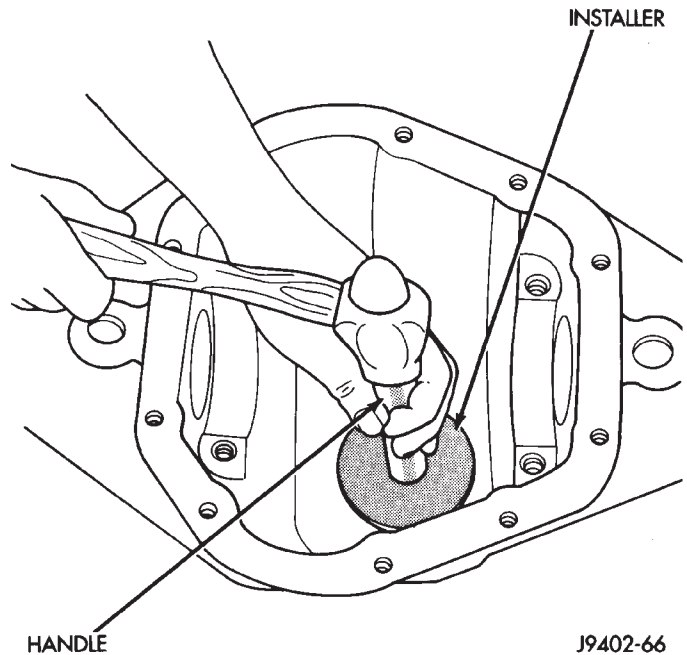
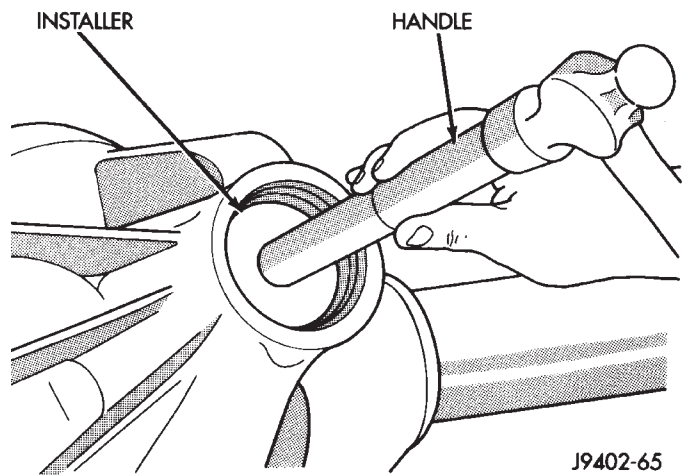
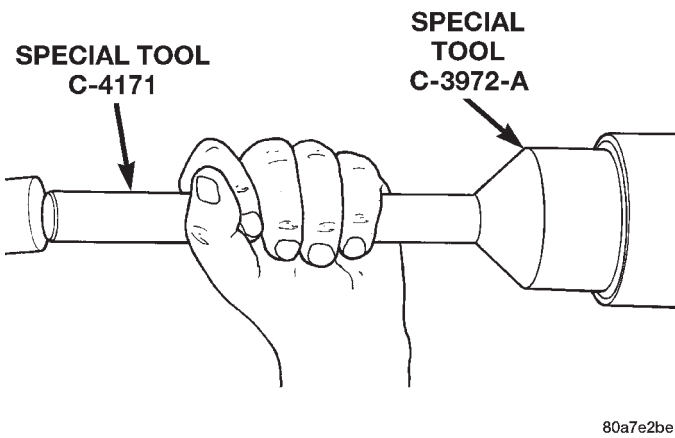

Fig. 40 Pinion Rear Bearing Cup Installation
Fig. 41 Pinion Front Bearing Cup Installation
Fig. 42 Pinion Seal Installation
(2) Install the pinion rear bearing cup with Installer D-146 and Driver Handle C-4171 (Fig. 40). Ensure cup is correctly seated.
(3) Apply Mopar® Door Ease, or equivalent, stick lubricant to outside surface of bearing cup.
(4) Install the pinion front bearing cup with Installer D-130 and Handle C-4171 (Fig. 41).
(5) Install pinion front bearing, and oil slinger, if equipped.
(6) Apply a light coating of gear lubricant on the lip of pinion seal. Install seal with Installer C-3972-A and Handle C-4171 (Fig. 42).